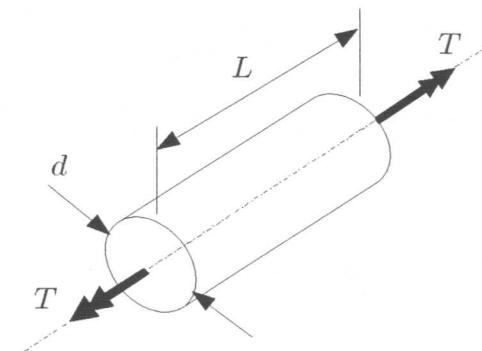

Figure 5.
5. A solid steel bar of circular section as shown in Figure 5 has diameter $d = 1.5$ in., length $L = 54$ in., and shear modulus of elasticity $G = 11.5 (10^6)$ psi. The bar is subjected to torques T acting at the ends.